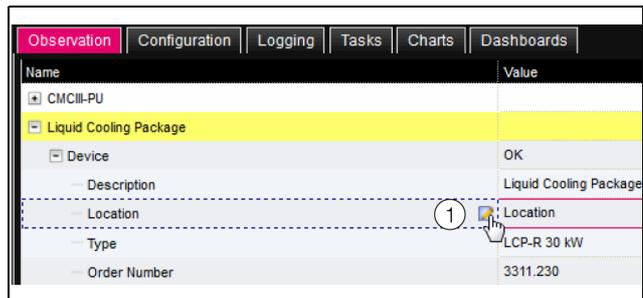

Fig. 111: Editable parameter with "Edit" symbol
For all parameters that can be changed, an "Edit" symbol in the form of a stylised notepad and pen will appear after the respective parameter if the mouse pointer is placed in the relevant line (fig. 111, item 1).